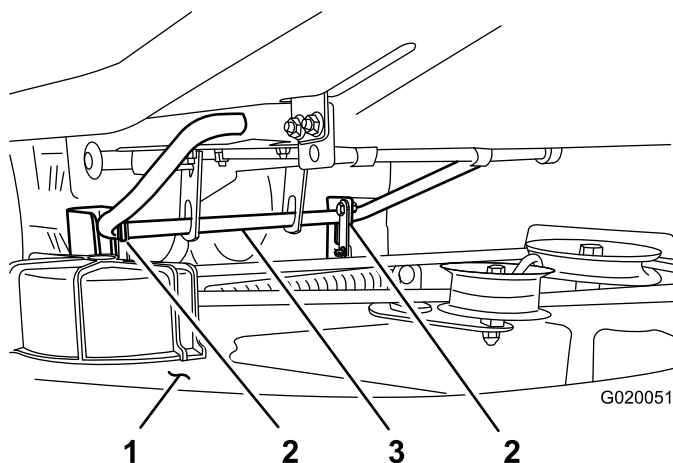
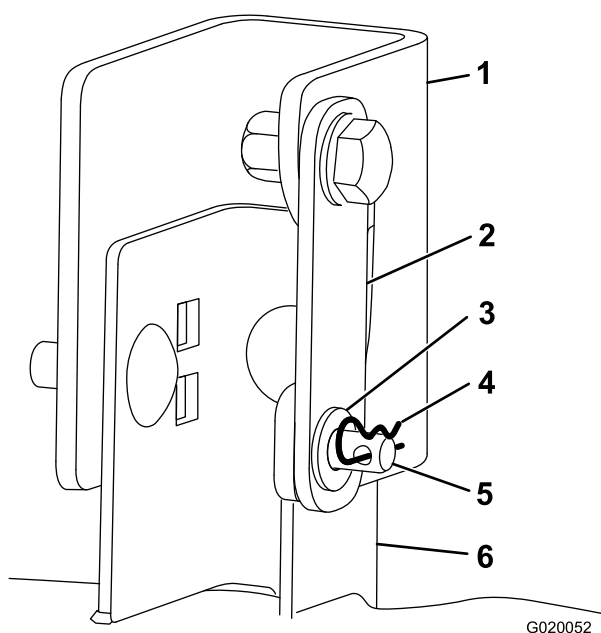

Figure 34
Figure 35
7. Remove the hairpin cotter and washer from the clevis pin in the hanger bracket and deck support bracket on one side of the mower deck. Repeat for the other side (Figure 34 and Figure 35).
7. Lift the rear of the mower deck, and guide the hanger brackets over the rear lift rod (Figure 34).
8. Swivel each deck support bracket so that the hole in the loose end aligns with the hole in the hanger bracket (Figure 35).
9. Install the clevis pin through the brackets on each side; then install the washers on the clevis pins and hairpin cottes through the clevis pins (Figure 35).
8. Lift the rear of the deck slightly to take the pressure off of the cotter pins, and remove them (Figure 34 and Figure 35).
9. Lift the mower deck and the hanger brackets clear of the rear lift rod, and lower the rear of the mower deck carefully to the ground (Figure 34).